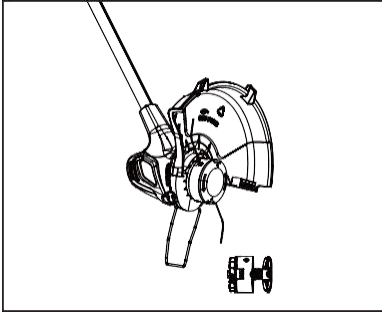

Fig. 4
- a). Press two buttons on either side of the grass trimmer's string casing (the buttons have a ">>>" symbol on them) to remove the lid of the casing. (See Fig. 4 & 5).